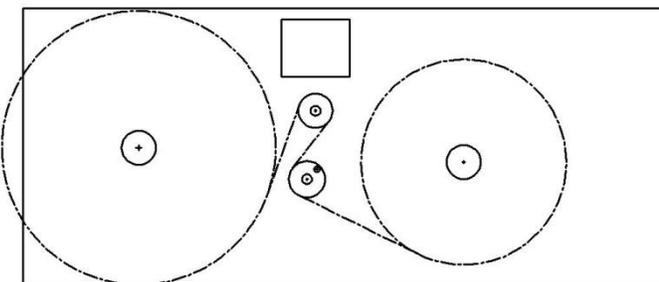
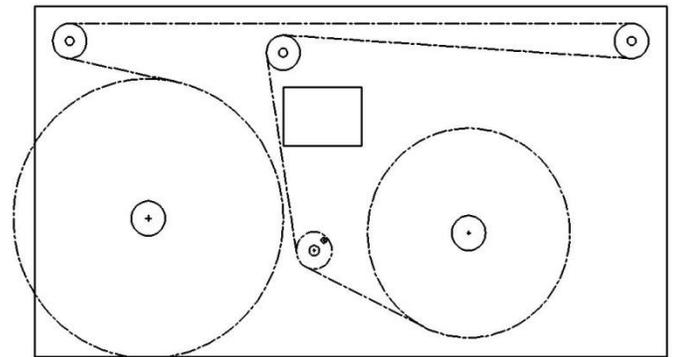

Figure 1A Web Path for WT-25LC Models
Figure 1B Web Path for WT-25LCI Models
- C) Install a roll of labels on the unwind. Pull the free end of the material off the roll until the coreholder locks. Thread the material as shown in Figure 1A (WT-25LC) or Figure 1B (WT-25LCI).